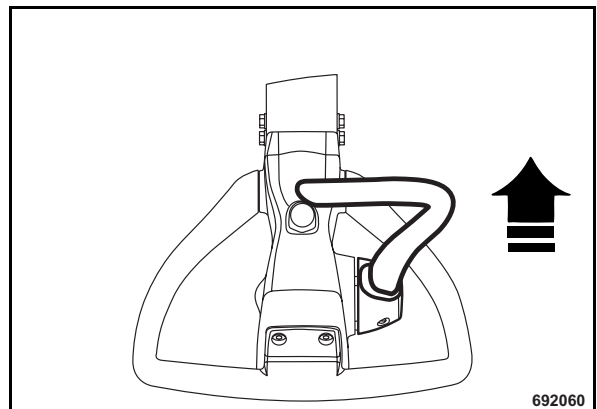

Fig. 69
- Hold the travel lever in forward position (Fig. 69).